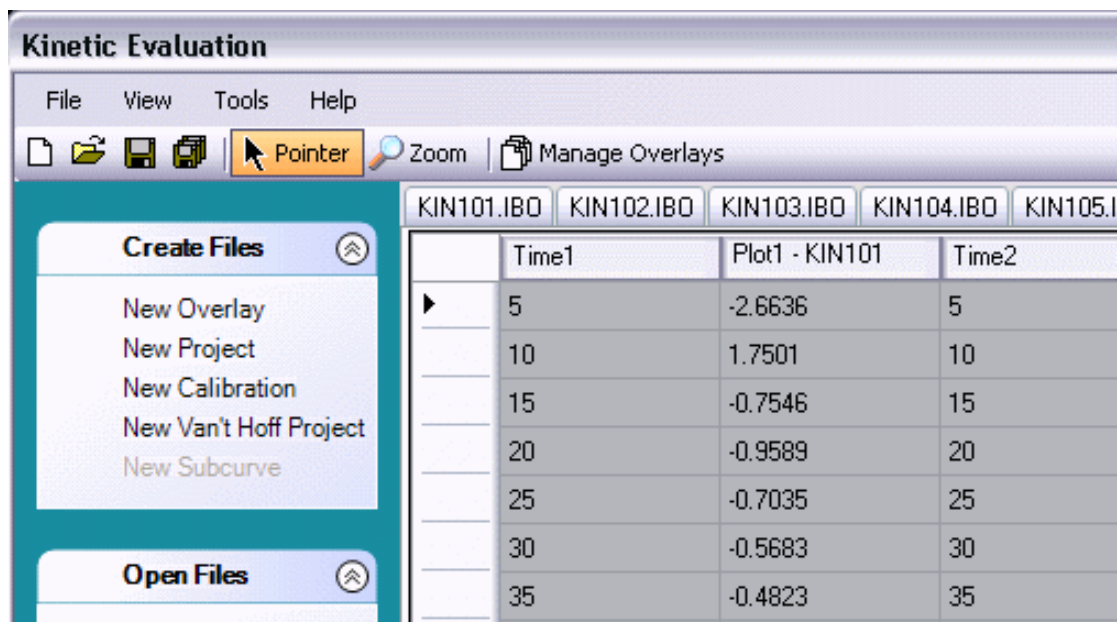

Figure 4.9 - Selecting all the data points
- a.) Click on the columns that you wish to copy (or click the square in the top-left corner to select all the data, as shown in Figure 4.9).